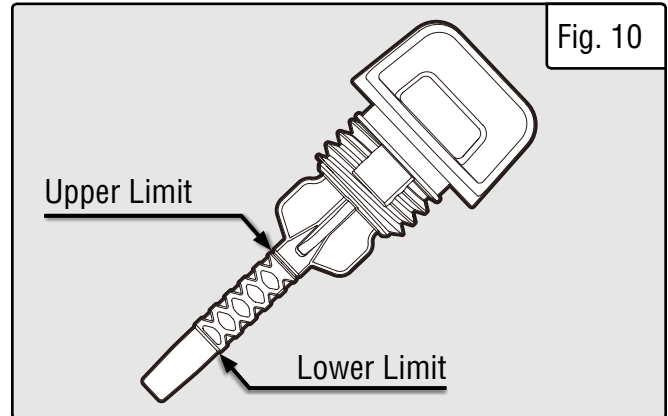

Fig. 10
4. If the oil mark covers **less than one half** of the dipstick, slowly **add oil** until the oil mark reaches the top of the dipstick (or when you can see the oil coming halfway up the oil fill threads). See Fig. 10.